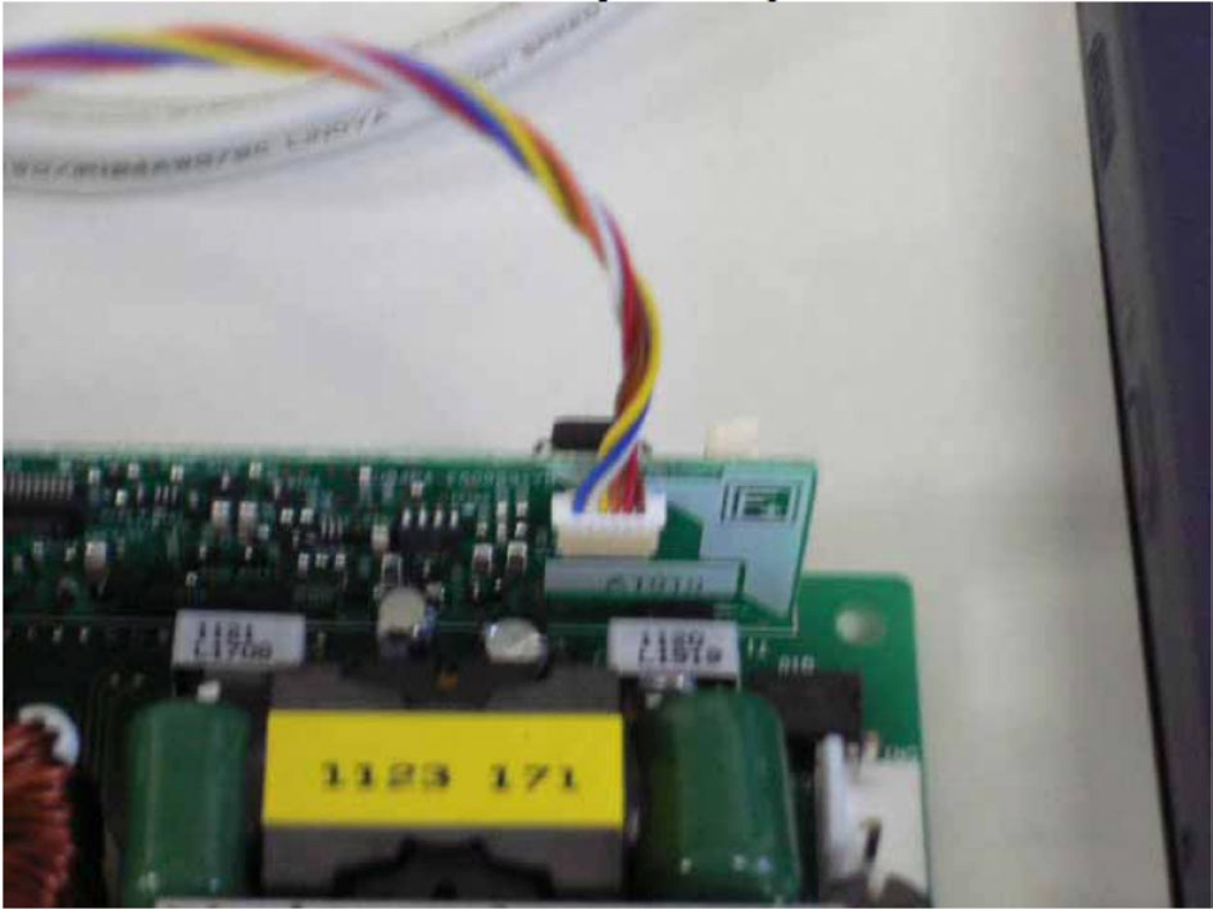

Fig. 2
- (4) Connect ICD3 harness and lamp driver (Fig. 2).